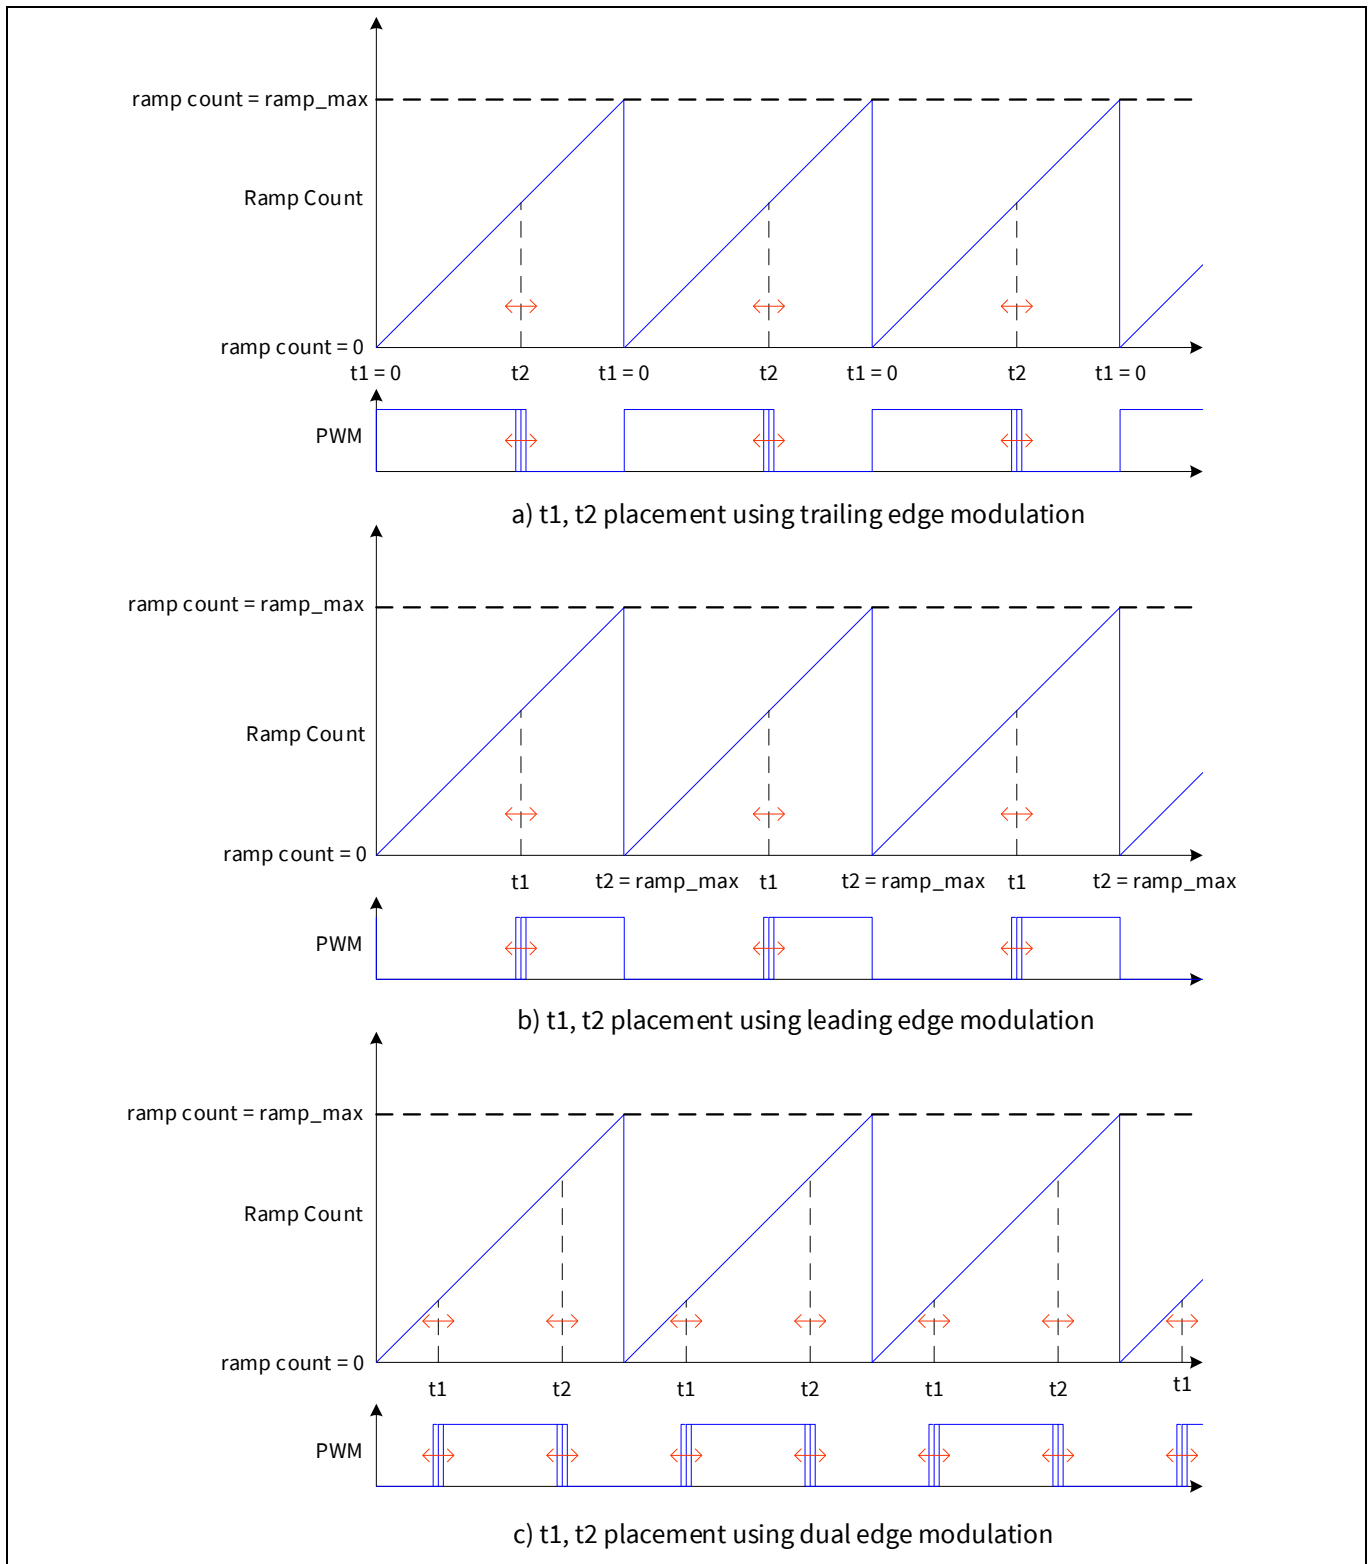

Figure 16 T1 and t2 placement for TE, LE and DE modulation.
VMC supports three pwm modulation modes: dual-edge (DE) modulation, trailing-edge (TE) modulation, and leading-edge (LE) modulation. These modulation schemes are shown in Figure 16.
The first modulation waveform in Figure 16 a) shows the trailing edge (TE) modulation case. The PWM pulse has a fixed leading edge and a modulated trailing edge.
The second modulation scheme is leading edge (LE) modulation, shown in Figure 16 b). The PWM pulse has a fixed trailing edge and a modulated leading edge.
The last modulation scheme is dual edge (DE) modulation, shown in Figure 16 c). In this modulation, the timing markers t1 and t2 are both modulated.